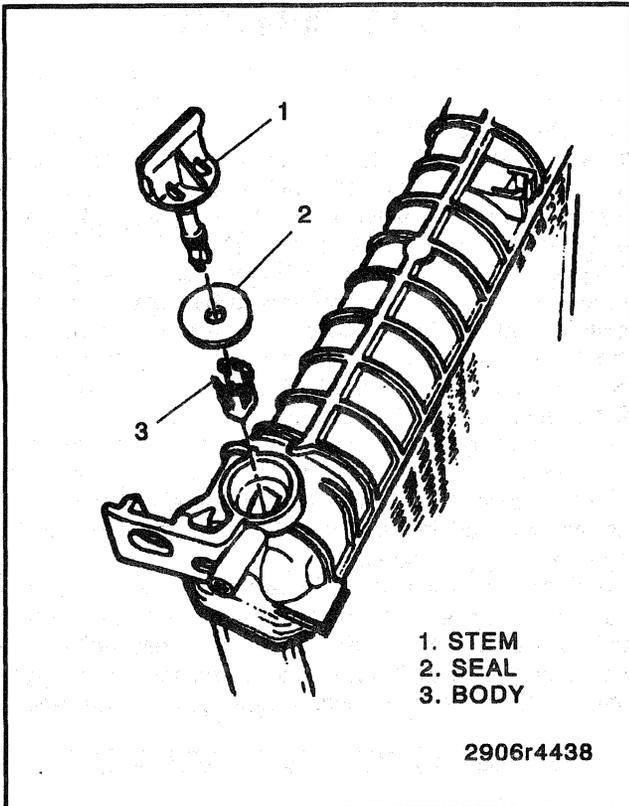

Figure 10—Radiator Drain Cock
**Remove or Disconnect (Figure 10)**
**Install or Connect (Figure 10)**